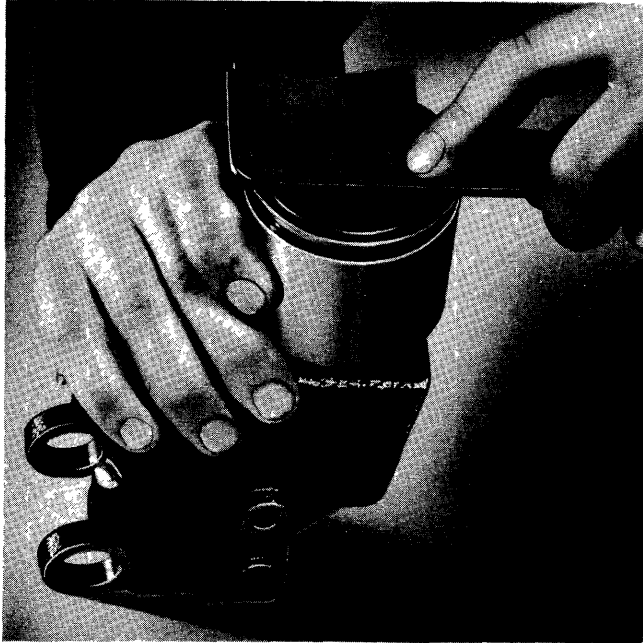

Figure 105J
1. Insert the prongs of a spanner wrench into the two opposite holes of the glass dust shield assembly and unscrew the shield. (See figure 105J.)